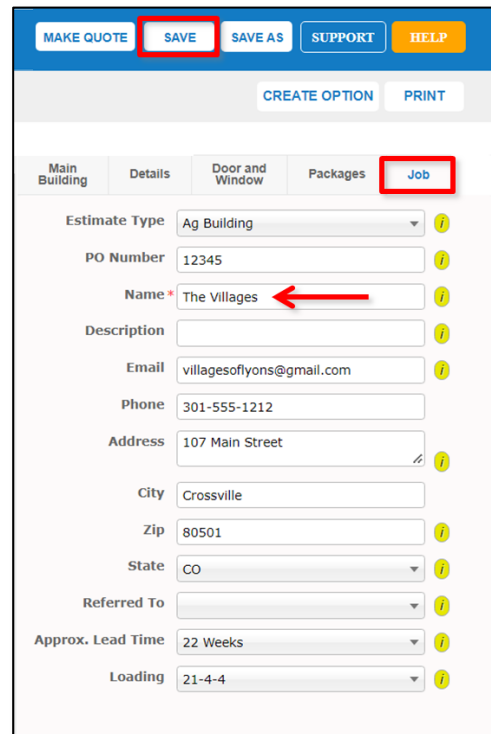

Figure 7: Type in a Name for your new job on the Job Tab.
- To give your new job a name, click on the Job tab in the Properties Pane, on the right side of the window, as pictured in Figure 7 at right.